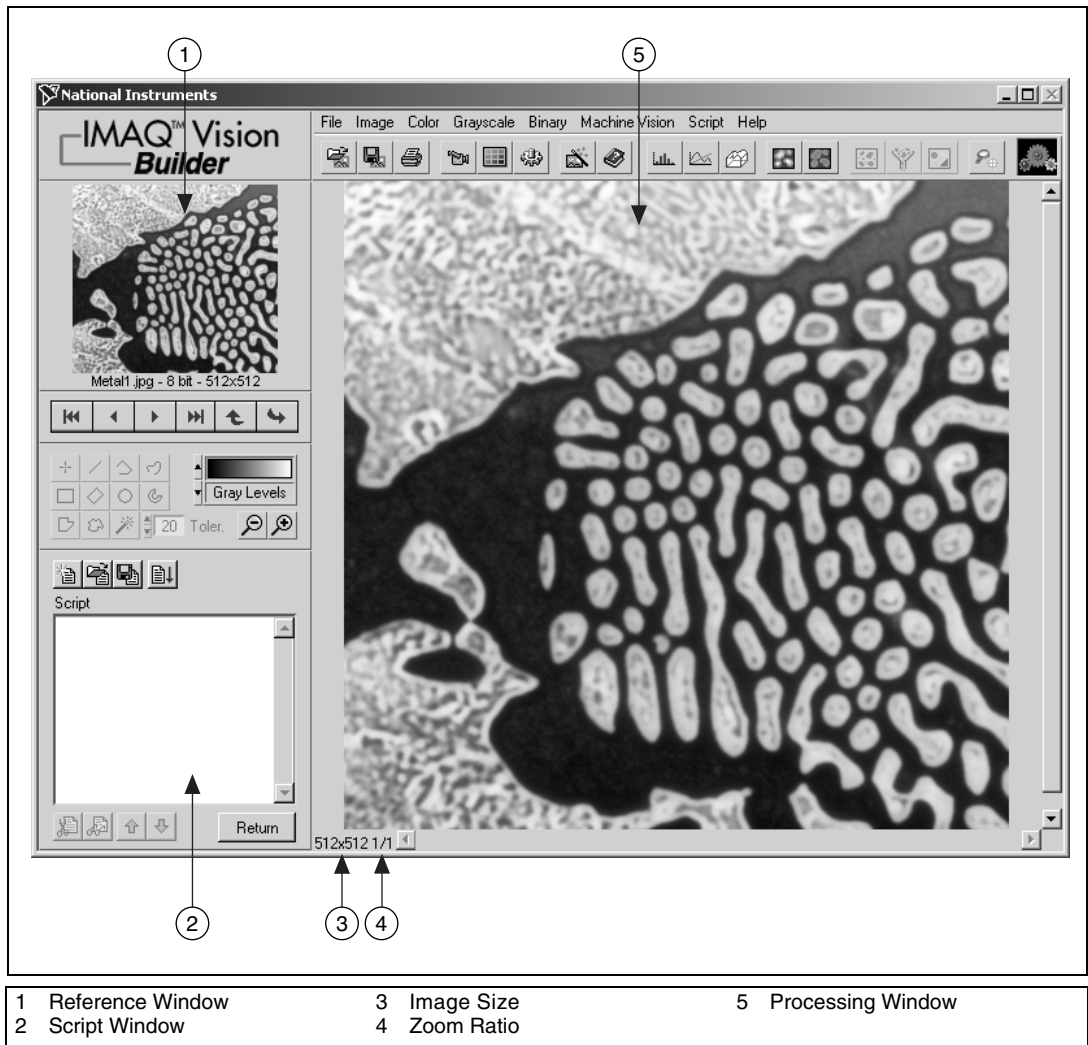

Figure 2-2. Processing an Image
- Processing window—Updates the image as you change parameters. Because this view immediately reflects the changes you have made in the parameters window, you can continue modifying parameters until you get the desired result. See Figure 2-2, *Processing an Image*, to view an image loaded into the Processing window.
- Reference window—Displays the original version of the image (image source) as you manipulate it in the processing window. See Figure 2-2, *Processing an Image*, to view an image in the Reference window.
- To enter processing mode, double-click the image `Metal1.jpg`. IMAQ Vision Builder loads the image into the processing window, as shown in Figure 2-2.